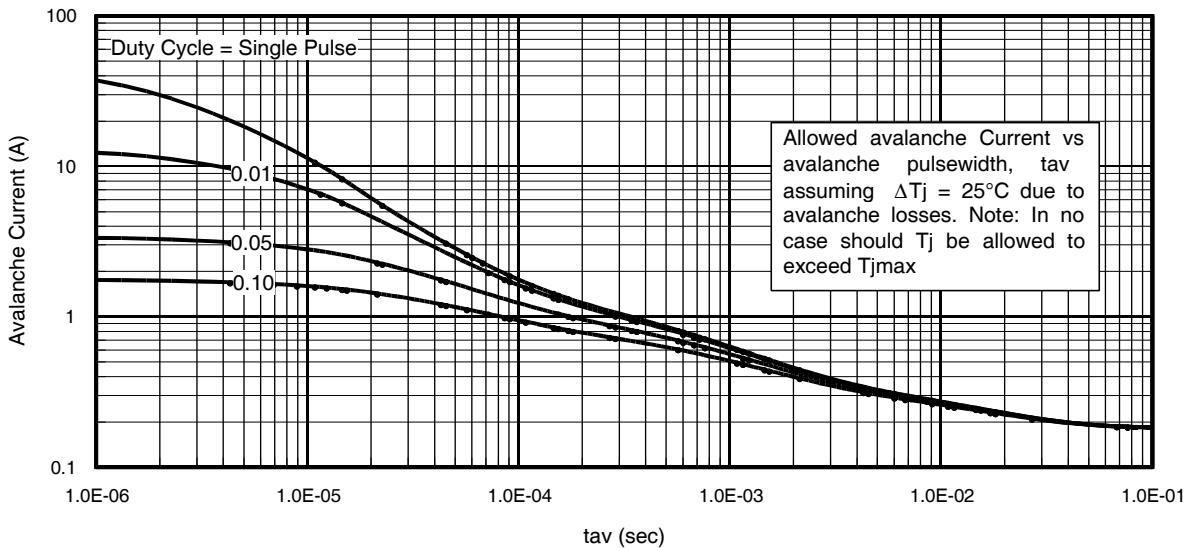

Fig 14. Typical Avalanche Current Vs. Pulsewidth
- ① Repetitive rating; pulse width limited by max. junction temperature.
- ② Starting $T_J = 25^\circ\text{C}$, $L = 1.78\text{mH}$, $R_G = 25\Omega$, $I_{AS} = 12A$.
- ③ Pulse width $\leq 400\mu s$; duty cycle $\leq 2\%$.
- ④ R_{θ} is measured at T_J of approximately 90°C .
- ⑤ Limited by T_{jmax} . See Figs. 14, 15, 17a, 17b for repetitive avalanche information
Notes on Repetitive Avalanche Curves , Figures 14, 15:
7. ΔT = Allowable rise in junction temperature, not to exceed T_{jmax} (assumed as 25°C in Figure 14, 15).